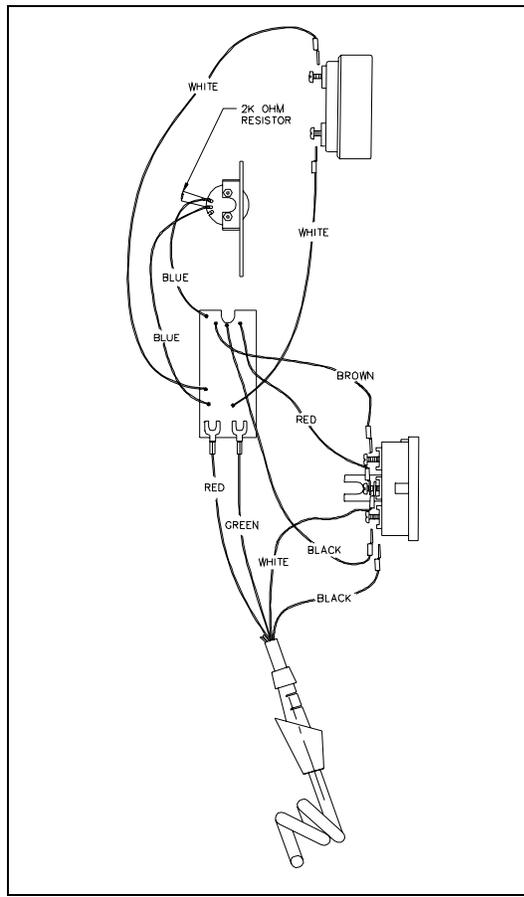

Figure 2. Handset Wiring Diagram
9. Snip off the cord's blue and yellow wires as close to their origin as possible. Insert the wire harness from the new cord into the handset. Refer to Figure 2.